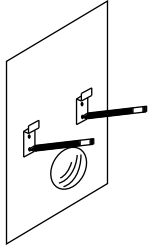

Fig 3
1. Mark where the 2 brackets will be fixed and if the hood is using back outlet mark and cut out the hole (Fig 3).